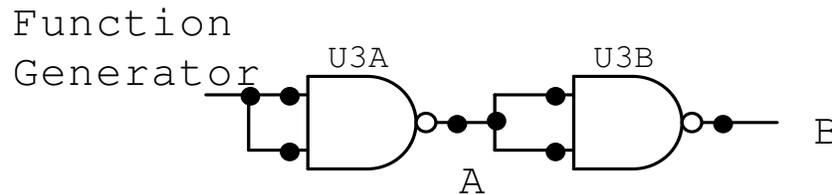

Figure 4.1: Cascaded NAND Gates as Inverters
- With the Function Generator controls set as in Part 1 above, connect two NAND Gates of a 7400 chip as inverters, as shown in Figure 4.1: